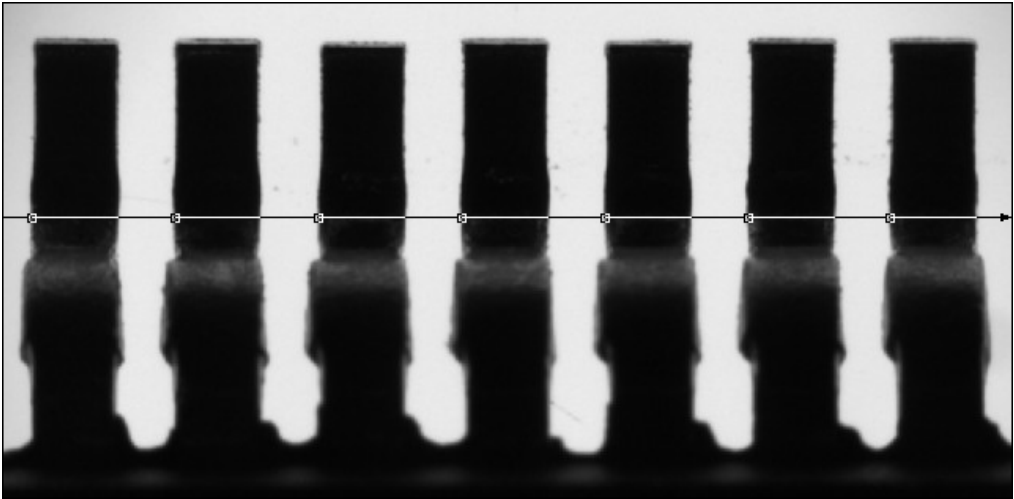

Figure 7-6. Locating the Edges of the Pins of a Microchip
4. Hold down the <Shift> key and draw a line from left to right across the width of the image where the pins are located, as shown in Figure 7-6.